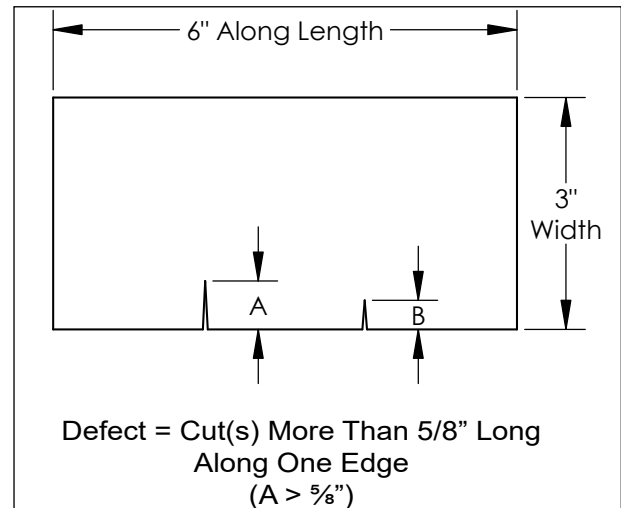

Figure 4 – Strap with Cut(s) Along One Edge
5. Release the ratchet on one of the straps connected at either end of the unit. Remove the strap and stretch it out straight on a flat surface. Inspect the webbing of the strap for damage in 6" long intervals along the length (refer to Figures 4 through 6). If no defect is found in the first strap, repeat this step with each remaining strap, stopping if a defect is found.